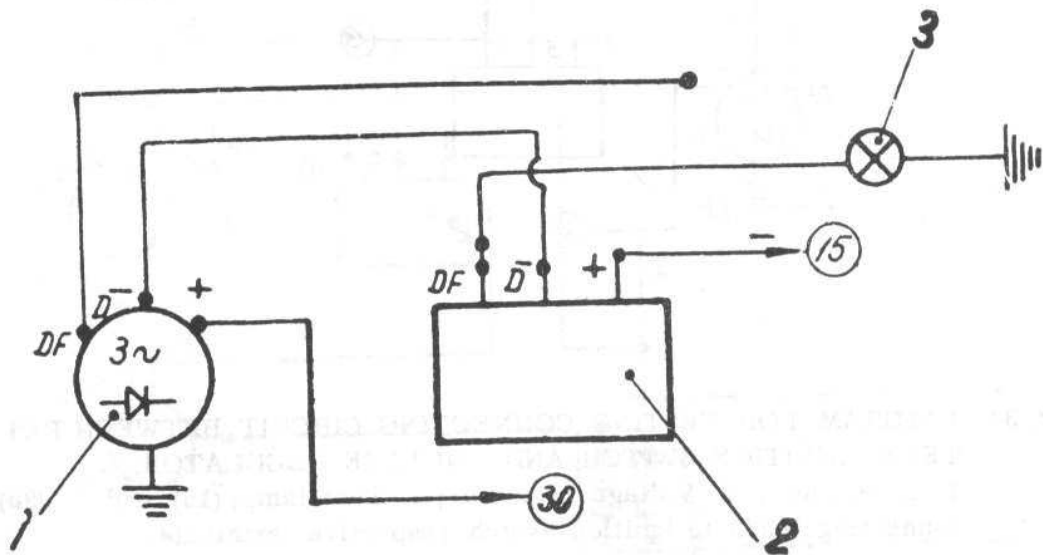

Fig. 4.36. CONNECTION DIAGRAM FOR CHECKING EXCITATION CIRCUIT OF VOLTAGE REGULATOR.
1. Alternator; 2. Voltage regulator; 3. Test lamp; (15) and (30): connecting leads to respective terminals of ignition switch.
- By closing the circuit with the switch key, the test lamp should light; if not, connect test lamp between green lead contact plug and the ground (see Fig. 4.36.).